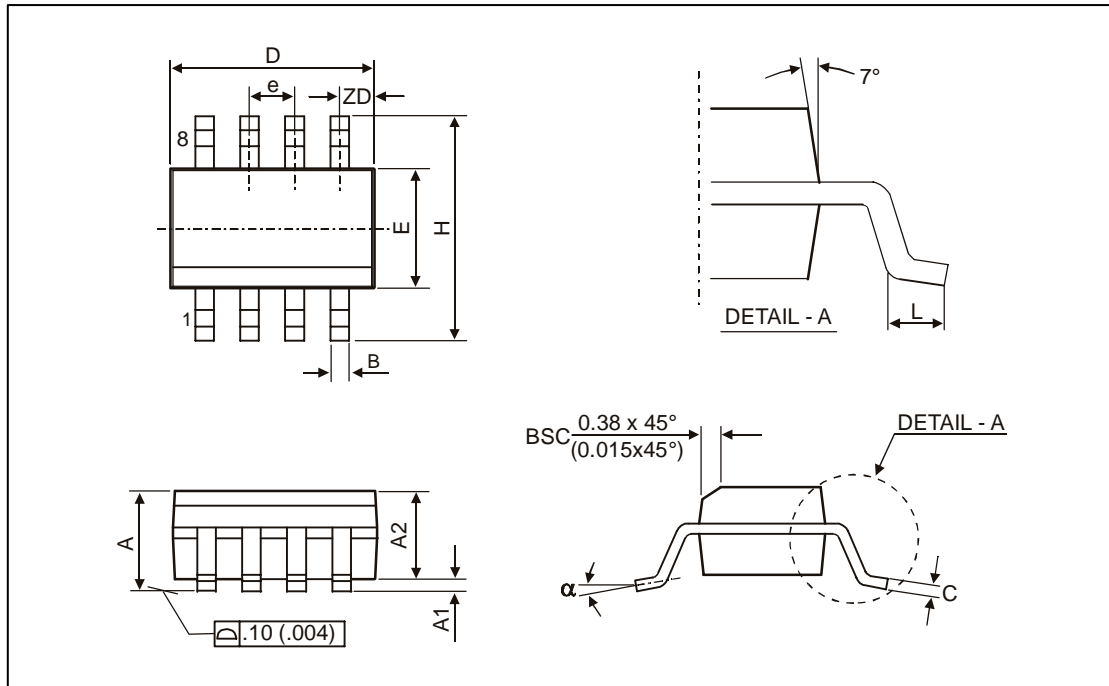

Fig. 18: SOIC8
typical values at $T_A = 23\text{ °C}$ and $V_{CC} = 3\text{ V}$; test circuit shown in Fig. 18, $f_c = 315\text{ MHz}$
6.1 Test circuit component list to Fig. 18